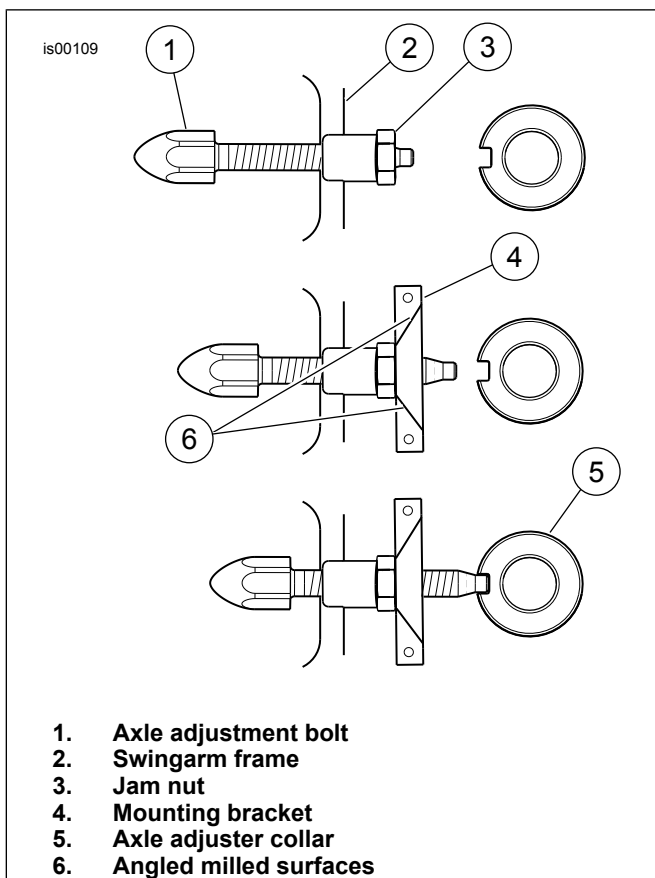

Figure 2. Installing New Components
3. See Figure 2. Install the new axle adjustment bolt (1) through the swingarm frame (2) with approximately 1/4 inch of thread protruding past swingarm frame. Thread the saved jam nut (3) onto the new axle adjustment bolt but do not tighten jam nut against swingarm frame at this time.
10. See Figure 2. Tighten the jam nut (3) against the swingarm frame lug (not cover bracket) on both sides of axle.